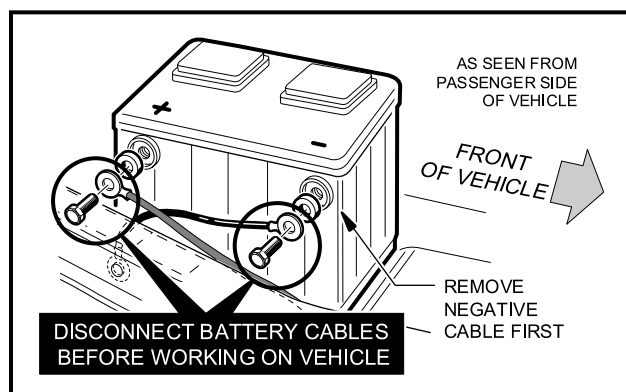

Figure 1 Battery Cable Removal
- DISCONNECT THE BATTERY CABLES, NEGATIVE (–) FIRST (**FIGURE 1, PAGE 7**).